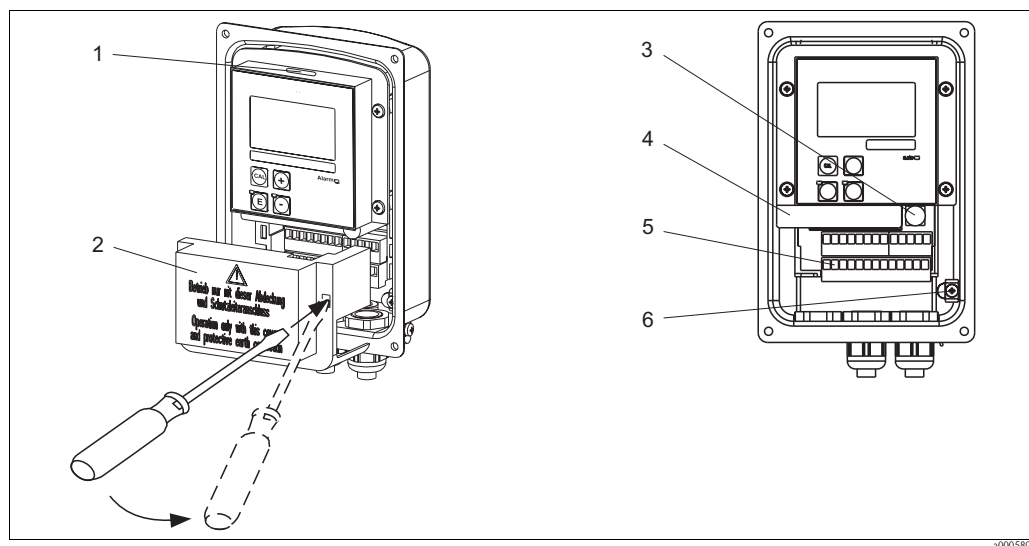

Fig. 2: Bus cable connection Smartec S PROFIBUS
Remove the cover frame from the terminal blocks. To do this, introduce a screwdriver in the recess (A) according to Fig. 2 and push the tab inward (B).